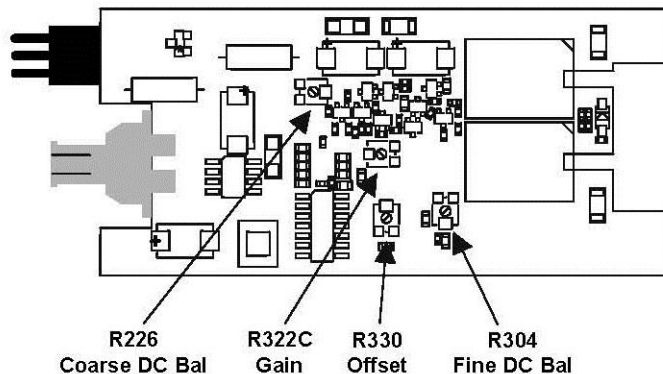

Figure 9, Amplifier Board Adjustment Locations
5. Adjust Coarse DC Bal (R226) on the amplifier board for an output voltage of 0 mV \pm 10 mV. (See Figure 9 for location.)